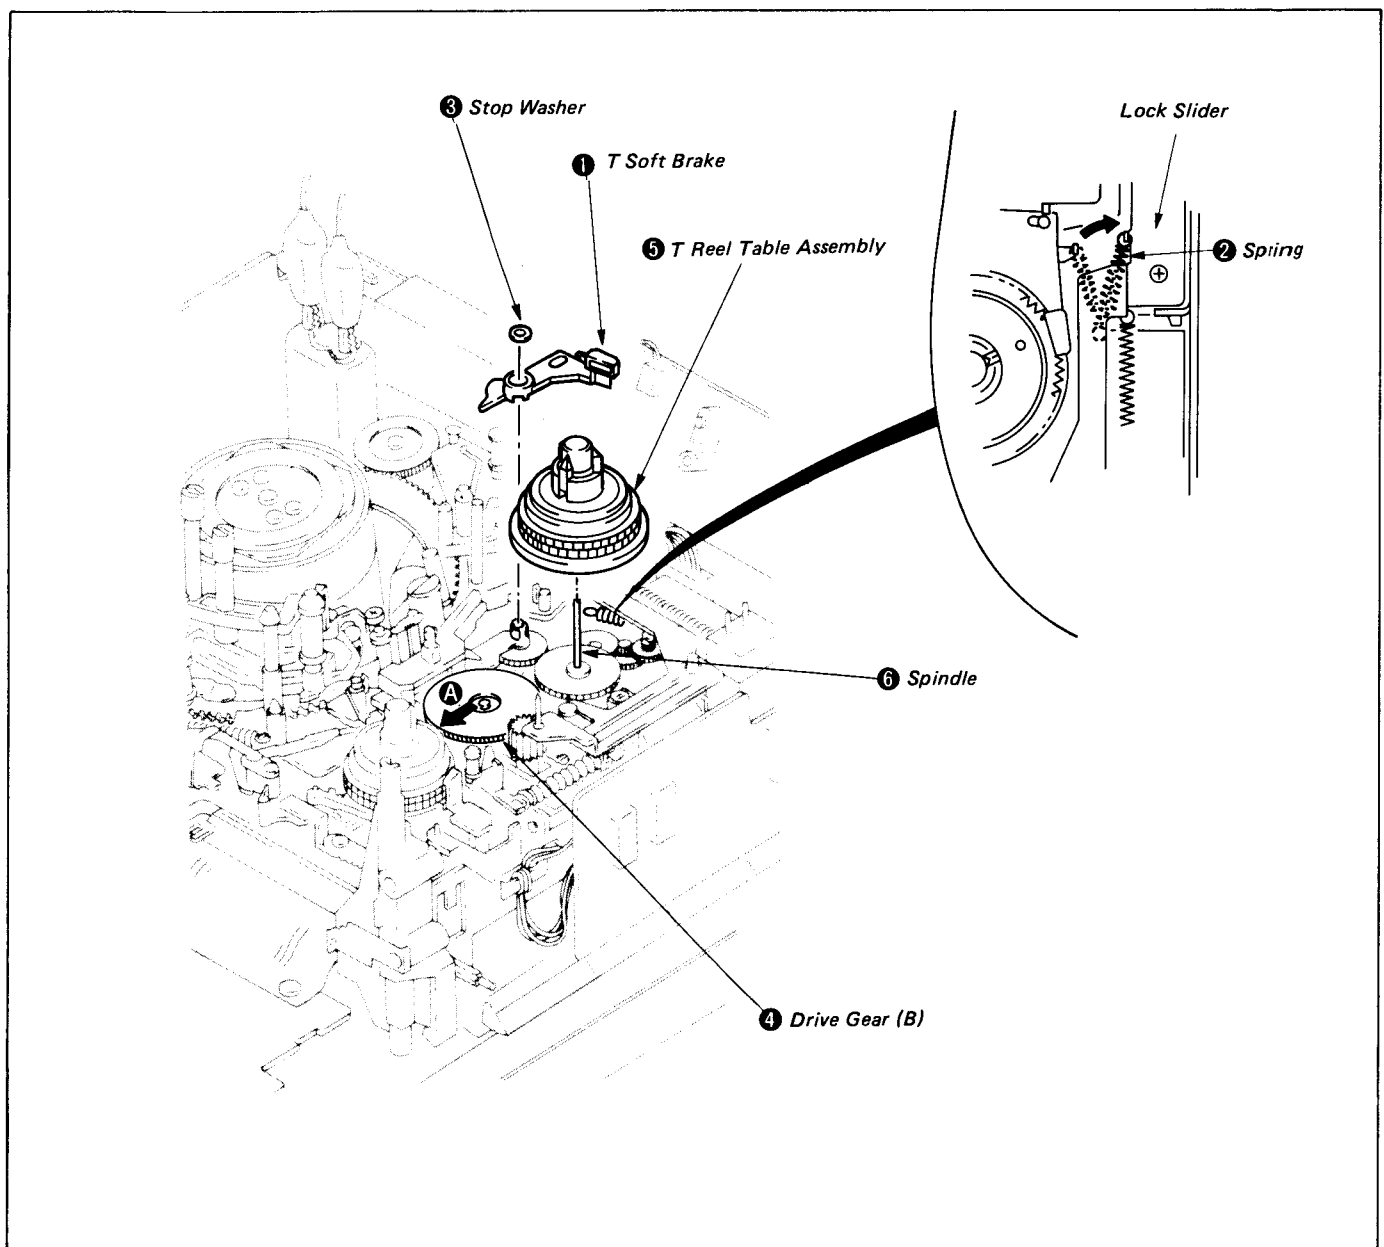

Fig. 1-9
- 3) Hook the spring ② tying the T soft brake ① on the click of the lock slider.
- 4) Remove the stopper washer ③ and T soft brake ①.
- 6) Move the drive gear (B) ④ toward the arrow A.
- 7) Remove the T reel table assembly ⑤. (See Fig. 1-9.)
- 3) Remount the T reel table assembly ⑤.
- 4) Remount the T soft brake ① and stop washer ③.
- 5) Rehook the spring ② on the click of the T soft brake ①. (See Fig. 1-9.)